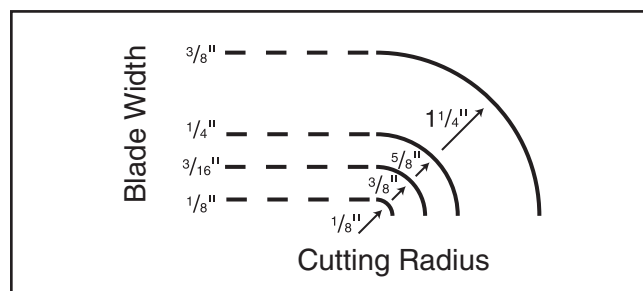

Figure 35. Recommended cutting radius per blade width.
- **Curve Cutting:** Use the chart in **Figure 35** to determine the correct blade for curve cutting. Determine the smallest radius curve that will be cut on your workpiece and use the corresponding blade width.